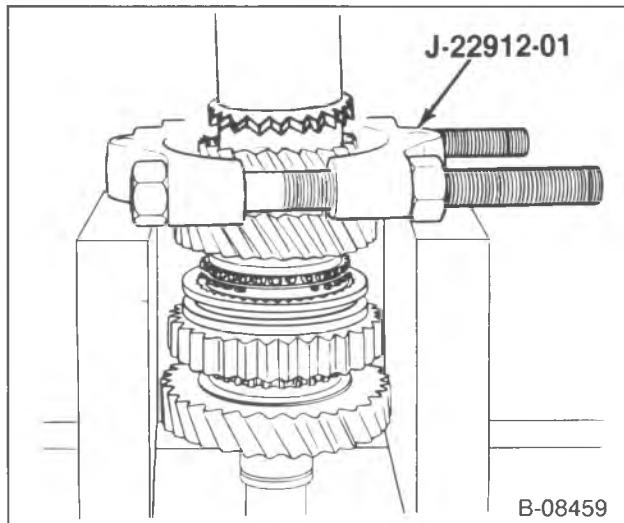

Figure 20—Removing the 5th Speed Driven Gear
- 3. Remove the snap ring and the 2nd speed gear thrust washer (666).
- 4. Remove the 2nd speed gear (667) and blocker ring.
- 5. Press the mainshaft through the 5th speed driven gear (679) using J 22912-01 (figure 20) (5 speed only).
- 6. Mainshaft rear bearing (678).
- It may be necessary to press the mainshaft through the bearing using J 22912-01 (figure 20).